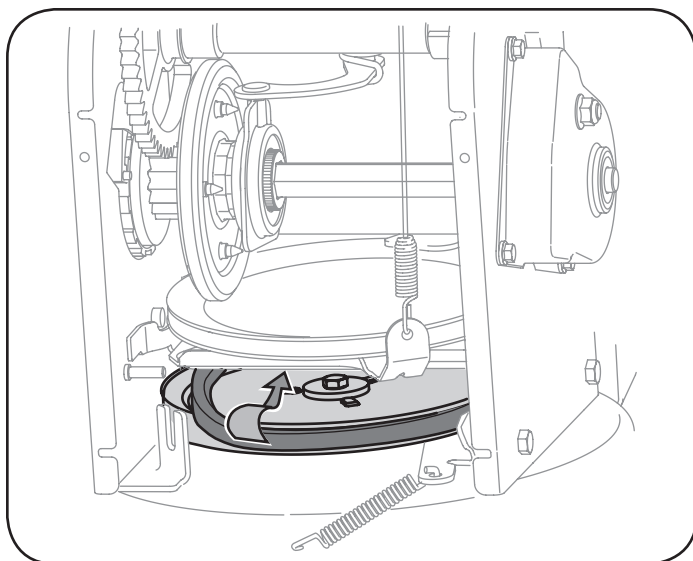

Figure 34
7. Remove the belt from around the auger pulley, and slip the belt between the support bracket and the auger pulley. See Figure 34.